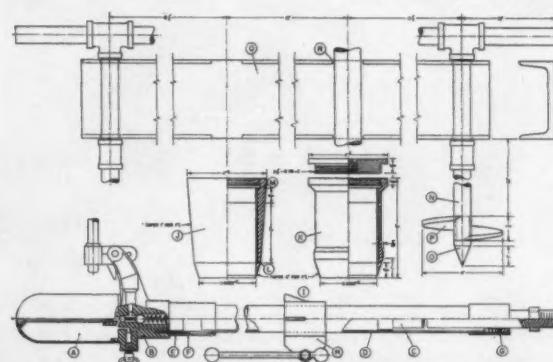

Fig. 2 Construction details of the portable soil sampler
The sampler (Fig. 2) is designed around a 2-ton hydraulic bumper jack, which consists of a fluid reservoir (A), pump (B), tube (not shown), and piston (C). The original jack tube was lengthened by substituting a 5-ft section of 1½-in. galvanized pipe (D). The upper end of the tube (E) was cut and threaded to fit into a 1¼-in. pipe coupling (F). The piston bushing (G) at the other end was removed and rethreaded to fit the pipe section.